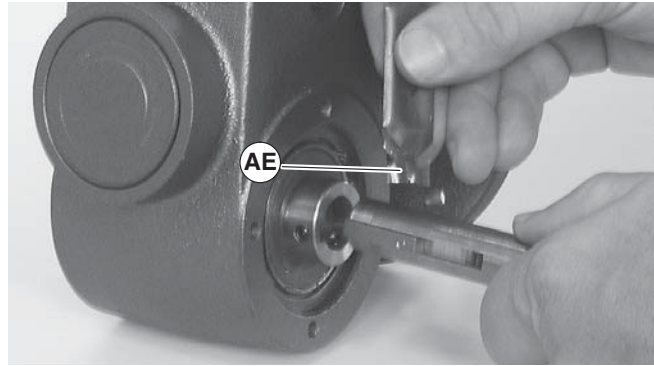

Figure 28
- Apply grease (Figure 28, item AE) to shaft.